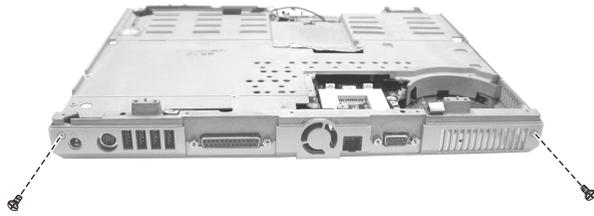

Figure 2-26 Remove two screws
6. Remove two screws fastening the gasket with system board too. Now separate the housing. (Figure 2-26)